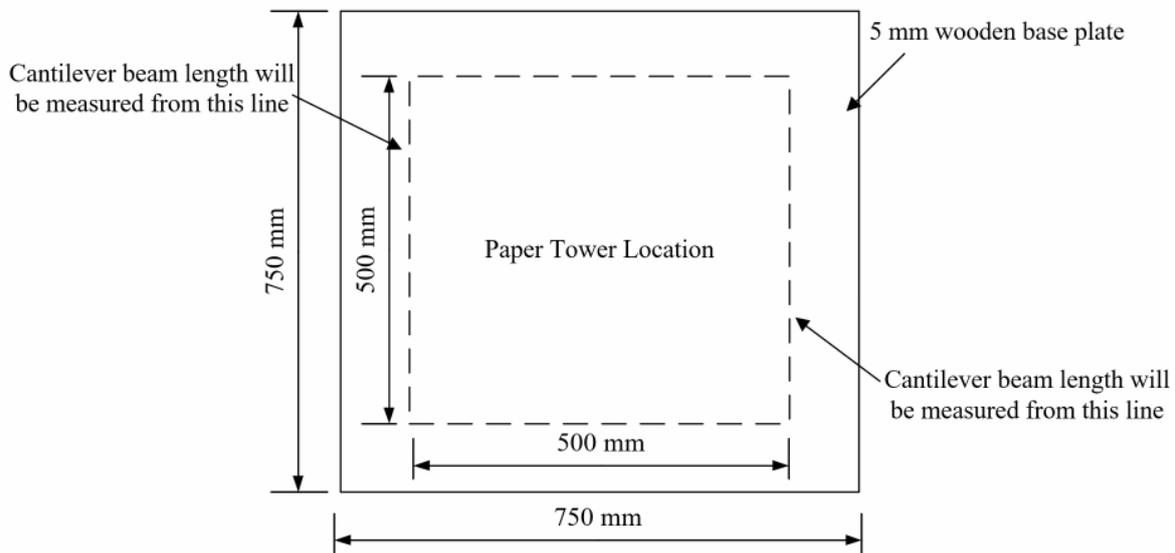

Figure 1: The base limit of paper tower
4. The total height of tower should be between 1.0 m and 1.5 m. As illustrated in Figure 1, the length and width of the base shall not exceed 50 cm (A 50 cm x 50 cm square will be shown on the baseboard). The length of each cantilever beam is between 20 cm and 50 cm (which is measured from the edge of the base to the loading point). Towers that do not meet these size requirements will be DISQUALIFIED. The headroom below the two cantilever beams must be at least 50 cm (which is measured from the lowest point of the cantilever arm to the base). The loading point of each cantilever beam must be designed by the students.
As illustrated in Figure 1, the base of the tower should not exceed the boundary defined by a 500 mm × 500 mm square. If the base of the tower lies outside this boundary, the team will be **DISQUALIFIED**.
During each loading attempt, loads must be applied simultaneously on both cantilever arms to ensure balanced structural behavior. Each team is allowed up to three loading attempts, regardless of success or failure. The applied load may be increased progressively, and the highest successfully completed loading level will be taken as the valid result. Scoring will be based on both the applied load and the distance from the loading point to the cantilever beam length measurement line shown in Figure 1, in accordance with Table 1. It is important to note that the maximum weight that can be added to the structure is 1000 g. If the hanger of the structure touches the ground within 10 seconds after weights are added, it will be classified as a "failure".